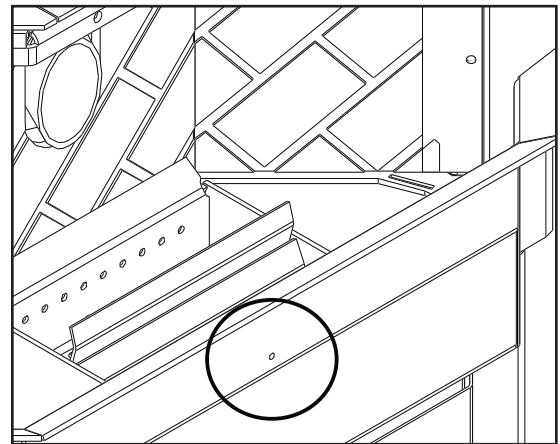

Figure 41: Hole for Pressure test with Magnehelic Gauge.
Taking a reading of vacuum pressure inside the firebox with a magnehelic gauge can be used to set the slider for best combustion. The slider damper should be set only on a hot stove (operating for thirty (30) minutes or more) by placing a Magnehelic Pressure Gauge in the firebox. The reading can be taken from the 1/8" (3 mm) hole located in the front of the firebox under the door (see Figure 41). **The best settings are a reading of approximately 0.1" to 0.12" of water column on the high fire setting. Some fuels may require higher or lower settings.**